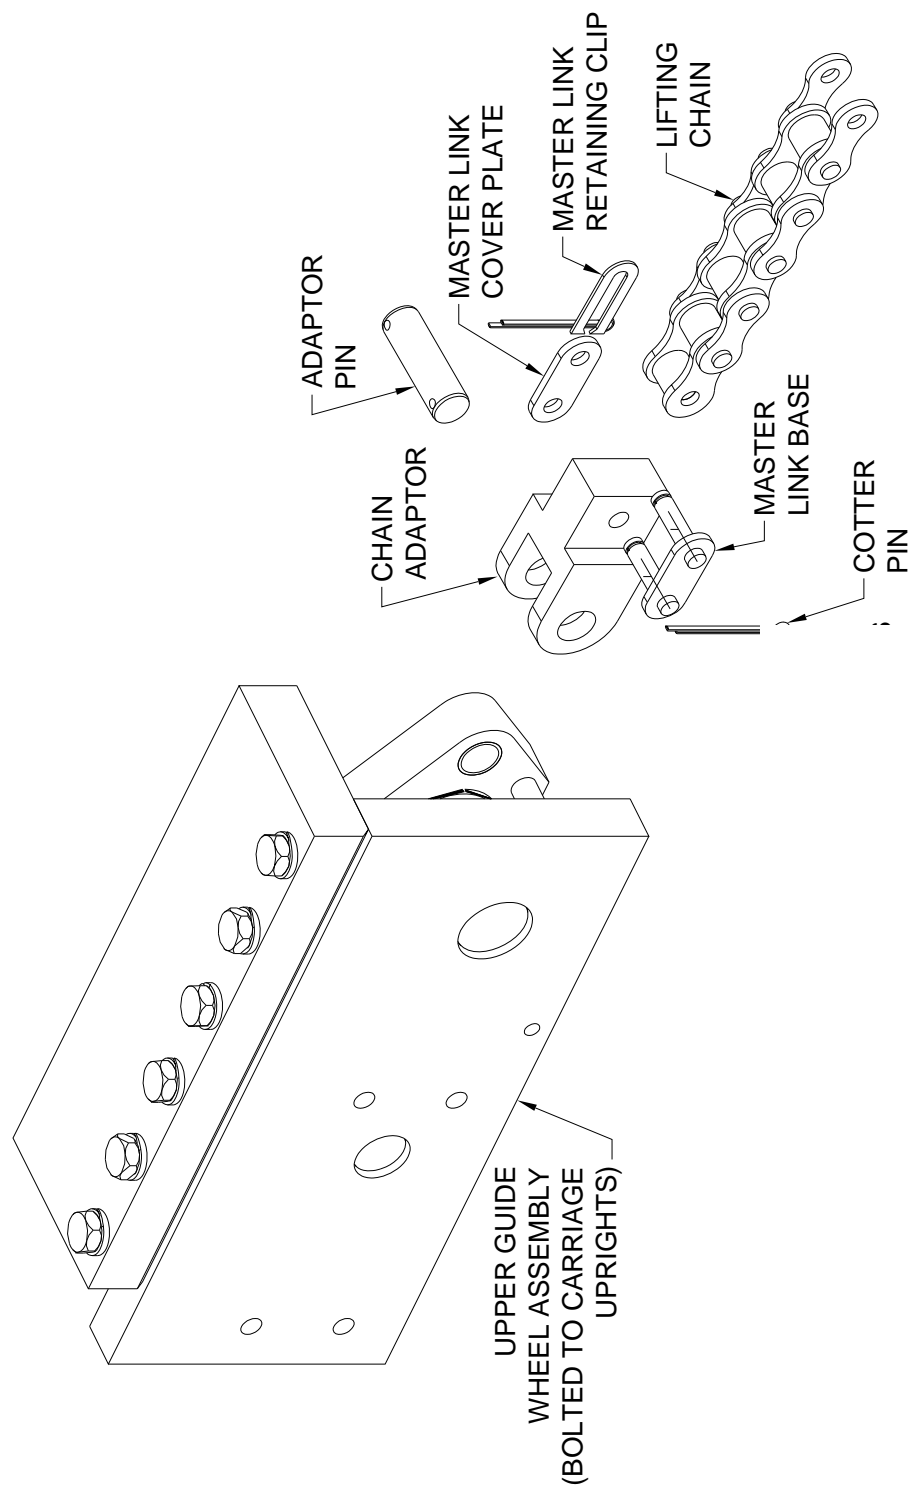

Figure 32a Locking Cam Attachment
5. Make sure that the carriage is level at the lower level before connecting one end of the lifting chain to the wheel guide with the hardware listed & provided (refer to **Figures 32a and b**).